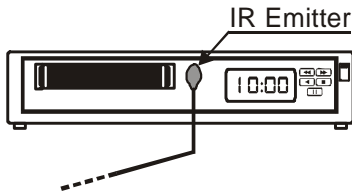

Figure 4: Connecting the IR Emitter
- The IR OUT 2, 3.5mm mini connector to the IR receiver¹ (on the video player) via the IR emitter cable (see Figure 4)